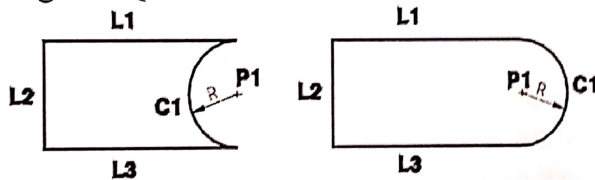

Figure Q1a
- b) Use Figures Q1a and b to illustrate the difference between *Geometry* and *Topology*